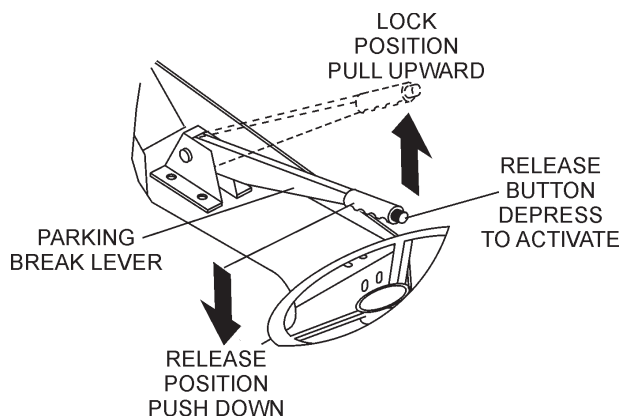

Figure 21. Brake Release Lever
1. To release the parking brake, press and hold the release button (Figure 21) pull up slightly on the parking lever, then push the parking brake lever all the way down.